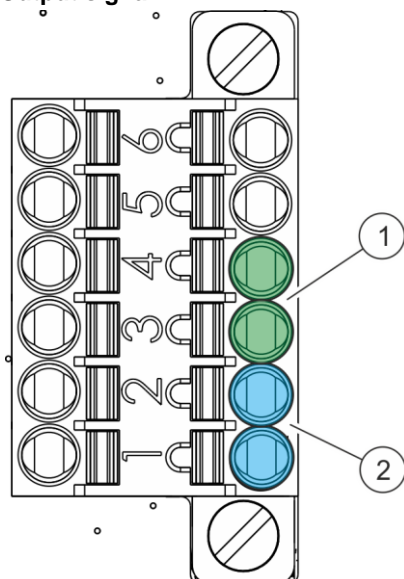

Fig. 27: Output signal, connector X4
- Oil mist level (Fig. 27/1)
- Drive chamber pressure (Fig. 27/2)